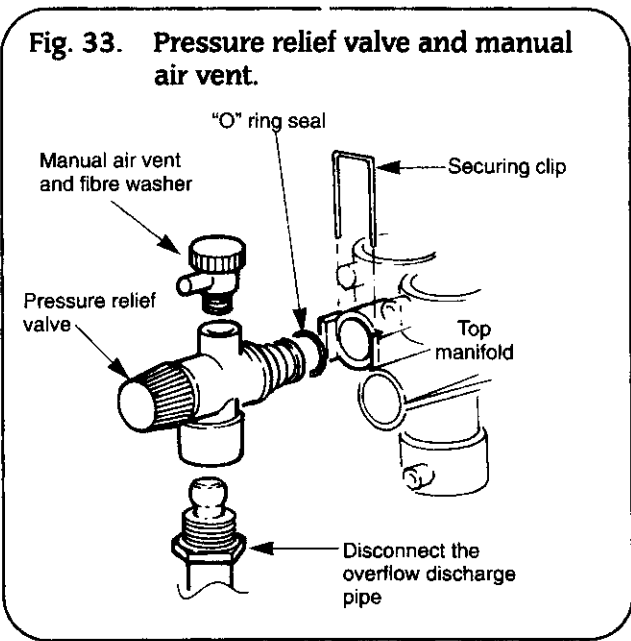

Fig. 33. Pressure relief valve and manual air vent.
27. Pressure Relief Valve. See Fig. 33.
28. Manual Air Vent. See Fig. 33.